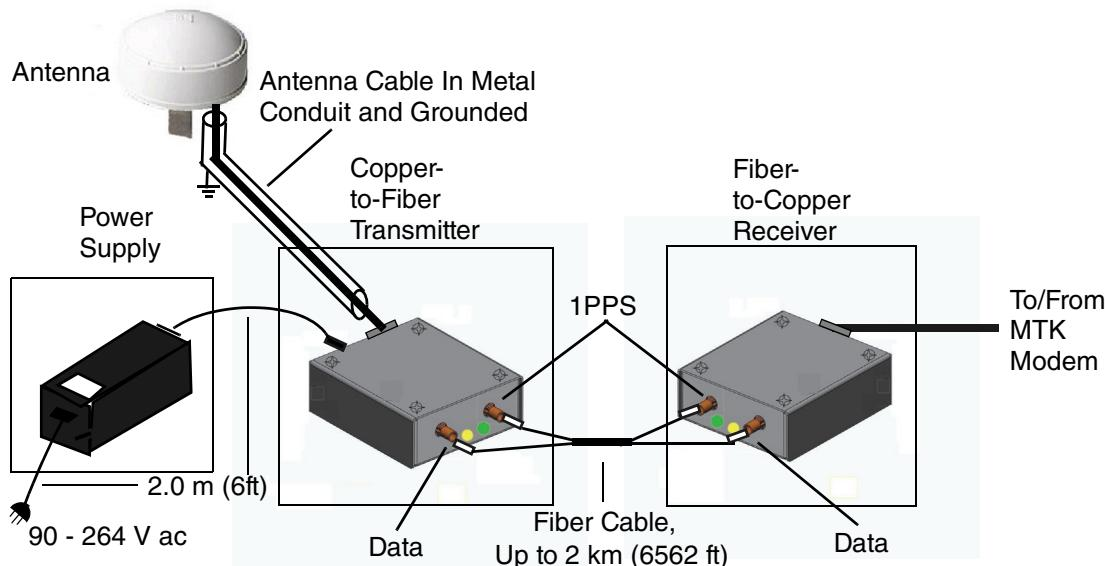

Figure 5-41. GPS Fiber Optic Isolator
- a. Install metal conduit from the base of the antenna to the copper wire-to-fiber converter (refer to Figure 5-41).
Fiber optic transmission is optionally used for isolation (eliminates the need for lighting arrestors or other high voltage interferences) and/or to extend the distance, up to 2 km (6562 ft), of the MTK host computer to the antenna. A COTS copper-to-fiber transmitter and a fiber-to-copper receiver at the MTK host computer converts the signals to its native electrical signals. Because the power for the antenna module cannot be transmitted over the fiber optic cable, a 12 V dc source of power must be provided for the copper-to-fiber transmitter (see Figure 5-41). The copper-to-fiber transmitter, fiber-to-copper receiver, and the power supply are shelf- or enclosure-mounted. Shelf or other suitable mounting requirements are user supplied.